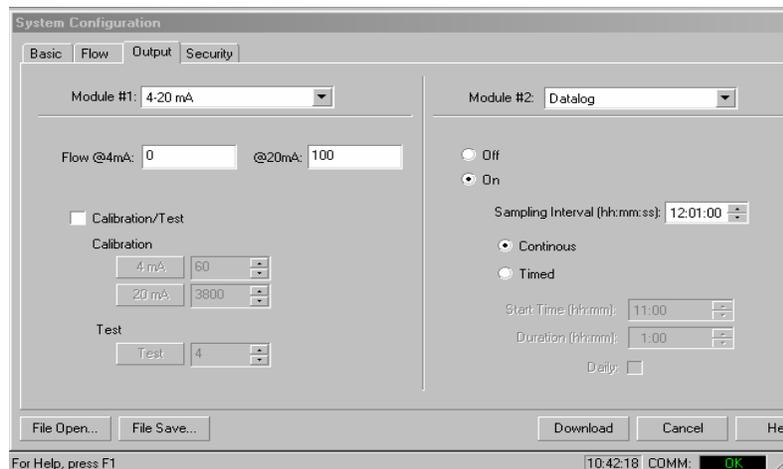

Figure 4.4
3. To configure input/output elements that may be present within the TFX, click on the **Output Tab**. See **Figure 4.4**. The output menu allows selection, configuration, calibration and testing of various input/output modules. The window will appear as shown in **Figure 4.4**. Detailed information regarding all of the modules available and configuration options are available in section 3 of this manual.